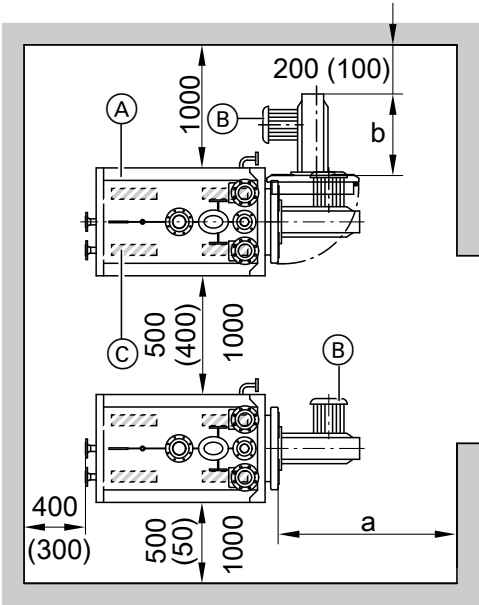

Fig. 1
We recommend positioning the boiler on **anti-vibration boiler supports** ② (see Fig. 1), in which case adjusting screws ① will not be required.